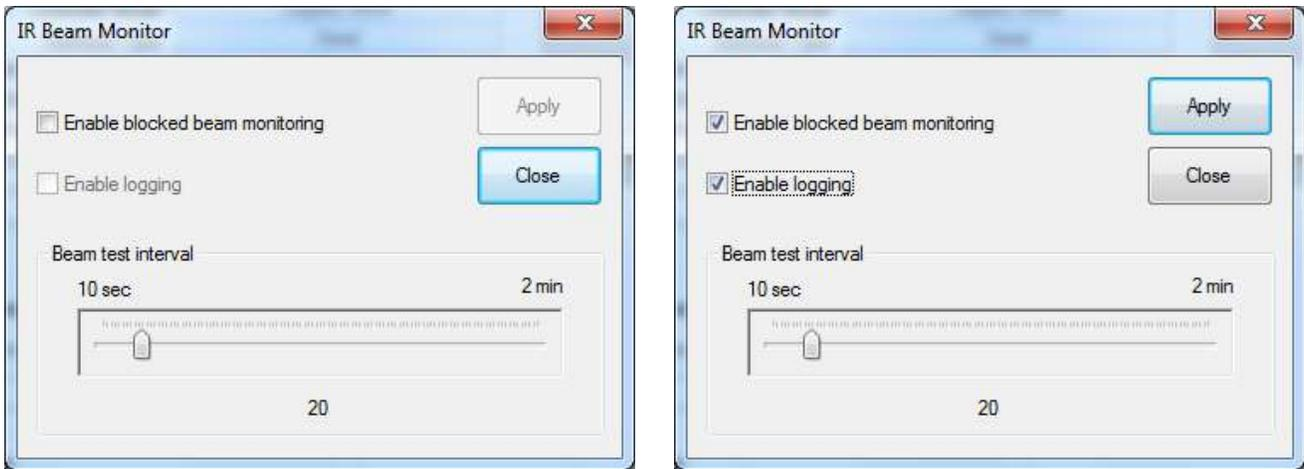

Fig 11. IR Beam Monitor configuration screen (disabled on left; enabled and logging enabled on right)
The **IR Beam Monitor** button allows configuration of the periodic monitor of the IR beam health, including cases of blocked beams cause by materials stuck on the screen. Clicking on this button will bring up the screen shown in Figure 11. By default (unless the EloOptions have been set differently), the options will not be checked as shown in the left hand image of Figure 11. To enable the monitoring, click on the Enable buttons as desired (right hand image of Figure 11), adjust the interval for testing the beams, click **Apply** and then **Close**.
2. The IR Beam Monitor must be enabled individually for each IR touch screen attached. When enabling one, it will appear that the 2nd one is also enabled, but you need to disable the 2nd one and re-enable it to be effective. To do that, select the **IR Beam Monitoring** option for the 2nd monitor (Figure 11) and first click off the "Enable block beam monitoring" option and then click it back on *without* clicking the **Apply** button. Select whether you want logging or not and then click **Apply** and then **Close**.